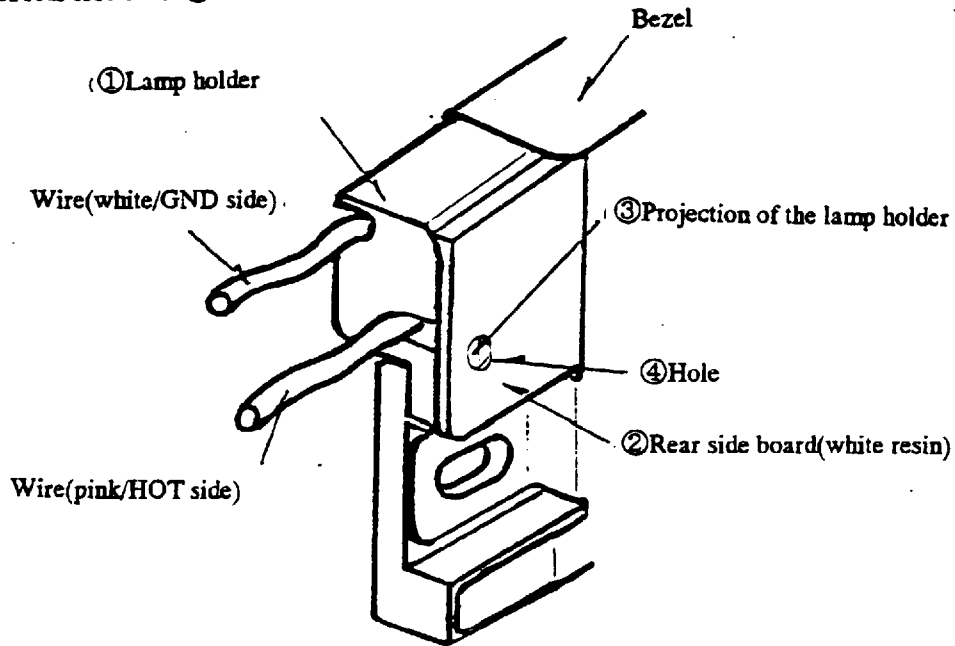

Fig.4
- 1) The lamp holder①is fixed with the rear side board②by fitting the projection③of the lamp holder to the hole④of the rear side board. (refer to fig 4)